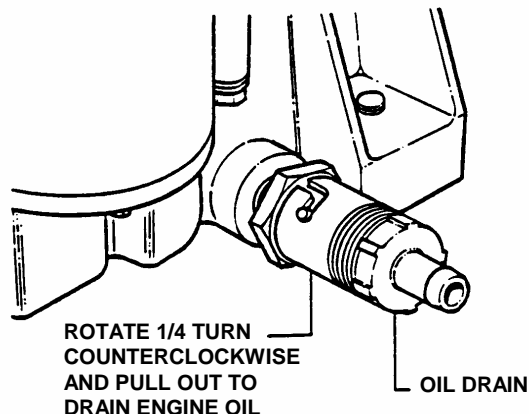

FIGURE 3.1
4. Place a 2 quart minimum capacity container under the end of the oil drain. Open oil drain. See Figure 3.1 for oil drains used on the Rear Engine Riders.
5. After all the oil has drained, close the drain and wipe up any oil that may have spilled. See Figure 3.1. Dispose of oil properly.